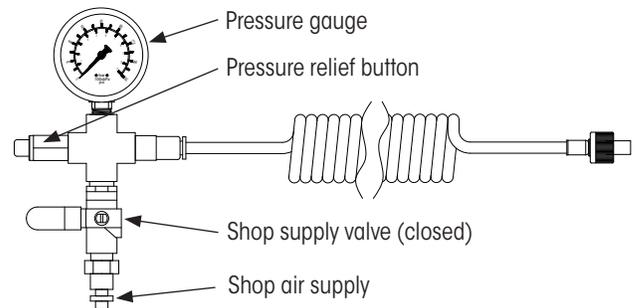

Figure 55: TIREMAAX PRO target gauge VS-32331
NOTE: The TIREMAAX PRO target gauge (Figure 55 on page 49) cannot be used in place of the CP target gauge. Fittings are not compatible.
- TIREMAAX PRO target gauge (Figure 55).
IMPORTANT: The TIREMAAX PRO target gauge (Figure 55) is required for this procedure. The PRO regulator does not self exhaust which could result in false readings.
6. **Connect** shop air to PRO target gauge shop air supply port, Figure 55.
- ii. **Use** pressure relief button on target gauge (Figure 55) to **lower** Inflation Pressure **at least 5 psi below the desired Inflation Pressure** setting.
2. **Connect** clean, dry shop air supply to PRO target gauge (Figure 55 on page 49). An air supply **at least** 15 psi above the desired cold Inflation Pressure is required.